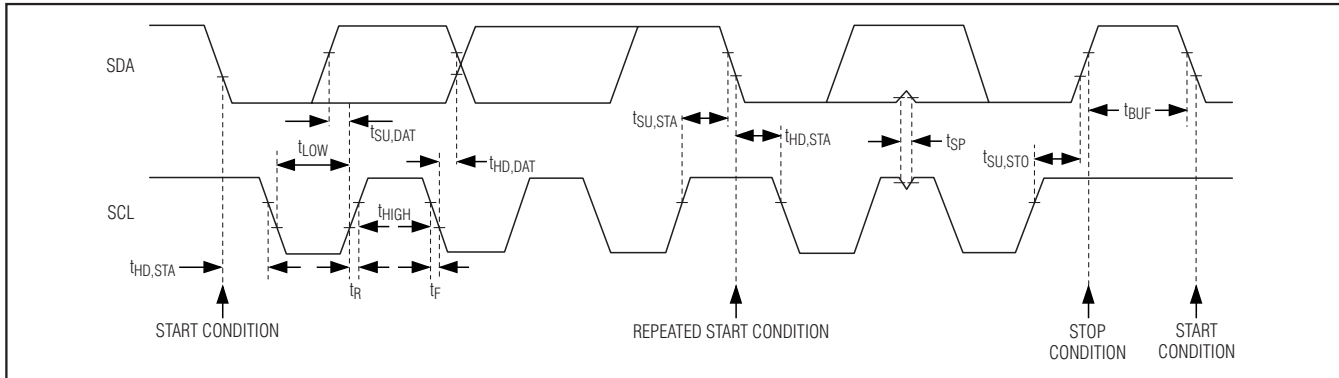

Figure 6. 2-Wire Interface Timing Diagram
The MAX9860 features an I²C/SMBus™-compatible, 2-wire serial interface consisting of a serial-data line (SDA) and a serial-clock line (SCL). SDA and SCL facilitate communication between the MAX9860 and the master at clock rates up to 400kHz. Figure 6 shows the 2-wire interface timing diagram. The master generates SCL and initiates data transfer on the bus. The master device writes data to the MAX9860 by transmitting the proper slave address followed by the register address and then the data word. Each transmit sequence is framed by a START (S) or REPEATED START (Sr) condition and a STOP (P) condition. Each word transmitted to the MAX9860 is 8 bits long and is followed by an acknowledge clock pulse. A master reading data from the MAX9860 transmits the proper slave address followed by a series of nine SCL pulses. The MAX9860